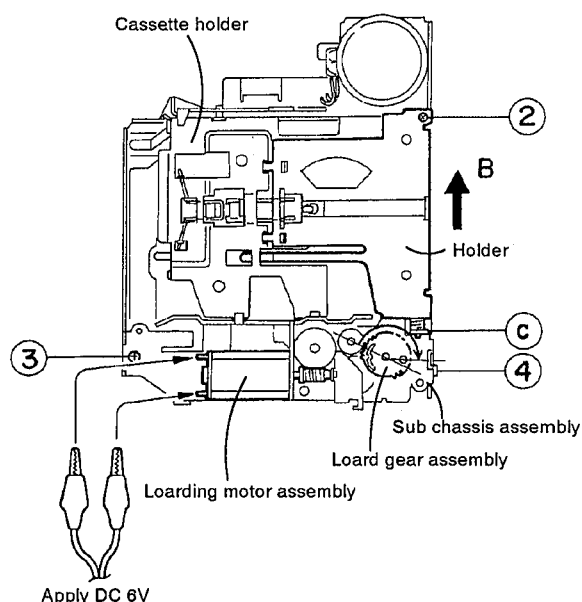

Fig. 2-10
3. Apply DC 6 V to the lead wire of the loading motor assembly and turn the load gear assembly to the position shown in Fig. 2-10.
4. Remove the screw ② securing the cassette holder and holder arm assembly. (Fig. 2-10)
5. Shift the cassette holder and the holder arm assembly in the direction shown by the arrow B and remove them from the interlocking section ③ of the sub chassis assembly. (Fig. 2-10)
4. Remove the two screws ③ and ④ securing the sub chassis assembly. (Fig. 2-10)